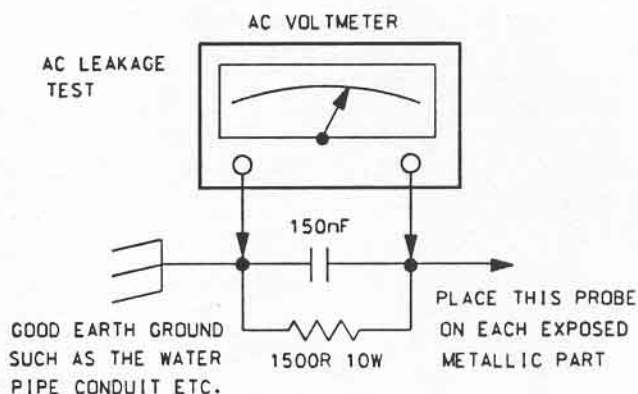

Figure 3-1. AC Leakage Test
- b) Connect a  $1500\ \Omega$ , 10 watt resistor in parallel with a  $150\text{nF}$  AC capacitor between a known good earth ground and each exposed metallic part, one at a time. With an AC voltmeter having a minimum sensitivity of  $1000\ \Omega/\text{V}$ , measure the voltage across the  $1500\ \Omega$  resistor. See Figure 3-1 below. The rms voltage measured **MUST NOT EXCEED**  $0.3\text{V rms}$  (equivalent to  $0.5\text{ mA rms}$  current). Values exceeding this limit are potential shock hazards. Correct immediately!